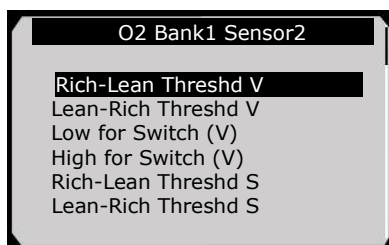

Figure 6.26
- 4) View test results of selected O2 sensor. (Figure 6.26)